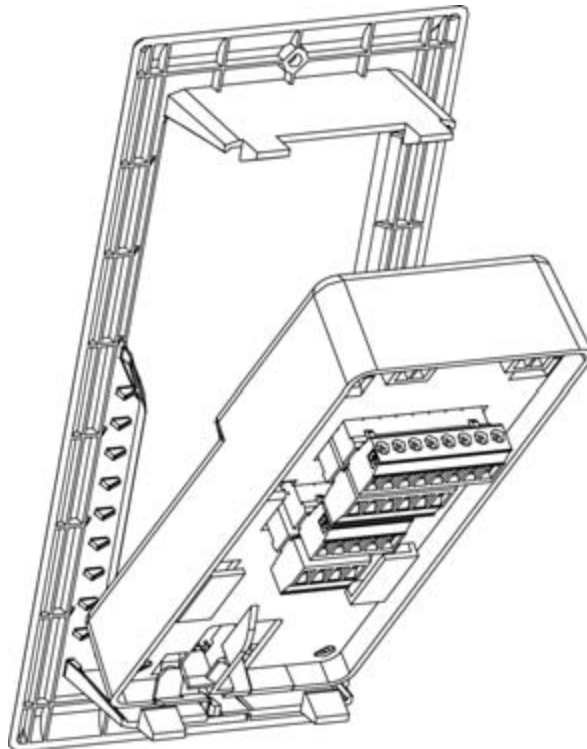

Figure 4: Attach FHC50 or FHM10 to the Flush-Mount Bezel
6. Attach the FHC50 or FHM10 to the Flush-Mount Bezel by first sliding in the bottom of the case and then pivoting until it snaps into place (Figure 4).